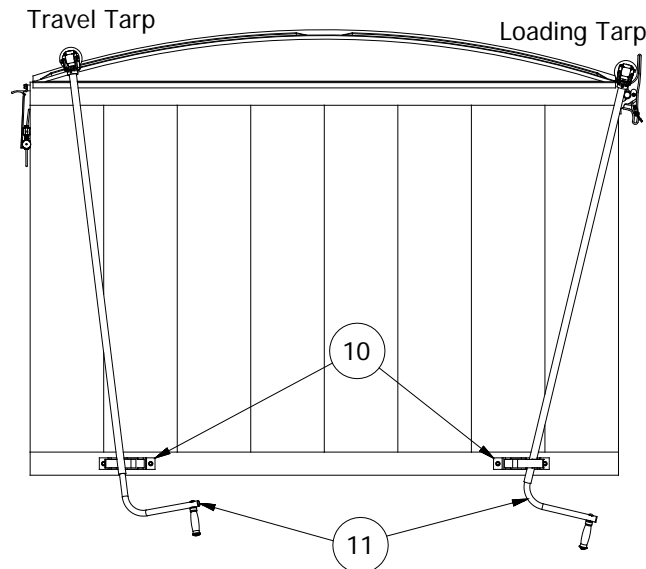

Figure 8
Procedure: Locate the front round bracket (6) 10 inches in from the face of the front of the hood and 3/4" lower than the top edge of the trailer. Using a 5/16" drill bit, drill two holes through the predrilled holes in the bracket and into the trailer. Secure the bracket to the trailer using two 3/8" X 1_1/4" self-threading bolts (5) provided. Remove the 1/4" X 3" hex bolt (7) from the flip-release tarp stop (4). Insert the bolt through the bracket (6) and through the tarp stop (4). Secure using the 1/4" lock nut. Torque the bolt appropriately so the flip-release tarp stop will remain in the unlocked position (see Figure 8). Remove the quick pin from the bottom hole of the flip-release tarp stop and adjust the tarp stop so it is in the unlocked position (see Figure 8). Install the rear bracket 10 inches in from the face of the rear end cap and 3/4" lower than the top edge of the trailer. Evenly space the remaining flip-release tarp stops along the same side of the trailer making sure to mount the brackets 3/4" lower than the top edge of the trailer. Position the traveling tarp pipe (9) in the lower seat of the round brackets (6) (see Figure 7-8). Then place the loading tarp pipe (8) in the higher seat of the bracket. Adjust both tarps so that both tarps are two inches in from the wind deflector on the front hood. Once the tarps are in position, engage the stops into the locked position. Reinsert the quick pins through the bottom holes in the round flip-release stops. Place the travel tarp on top of the trailer on the side with the tarp stops and unroll it some towards the middle of the trailer. The travel tarp has reinforcements and 1 center in it. With it unrolled some, pull the small quick release pipe and tarp down into the tarp stops. Place the loading tarp on top of the travel tarp on top of the trailer and unroll it towards the middle as well. The loading tarp has 2 loading holes and no center rod in it. With it unrolled some, pull the large quick release pipe and tarp down into the tarp stops. Position the travel tarp pipe (9) in the lower seat while the loading tarp pipe is in the higher seat of the round brackets (6). Adjust both tarps so that both tarps are two inches in from the wind deflector on the front hood. Once the tarps are in position, engage the stops into the locked position. Reinsert the quick pins through the bottom holes in the round flip-release stops.
(See Figure 8)